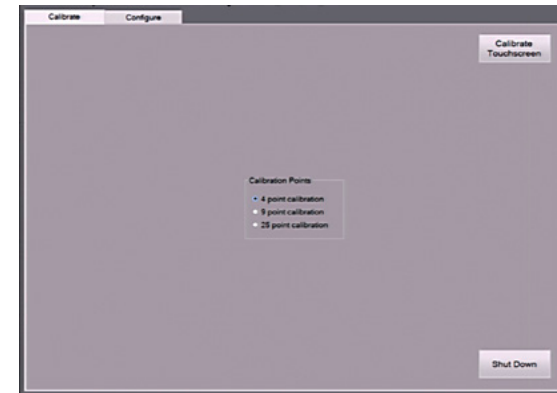

Figure 4-4 The Configuration Installer Screen - Calibrate Tab
2.1.5 Ensure Calibrate tab is highlighted in upper left corner. (see Figure 4-4).